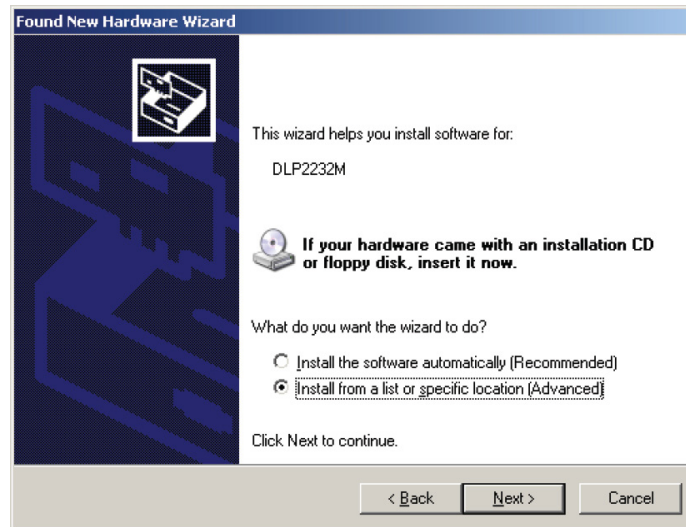

Figure 4. Hardware Wizard Screen 2.
- The screen in Figure 4 will appear. Click the radio button to select the “Install from a list or specific location” option. Click Next.